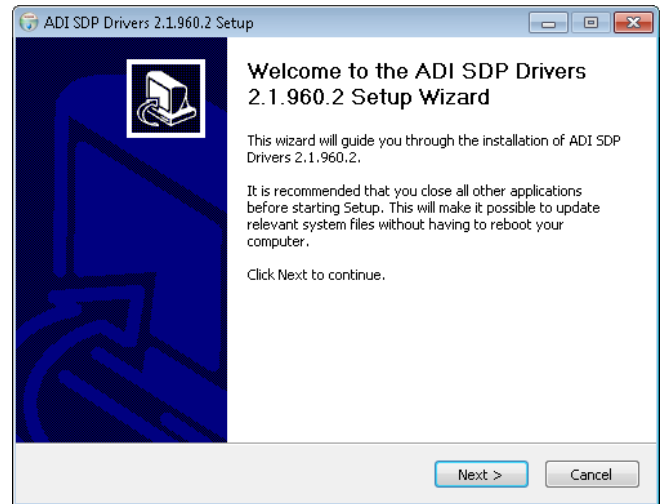

Figure 4. SDP Driver Installation
1. When the SDP drivers setup wizard appears, click **Next** (see Figure 4).